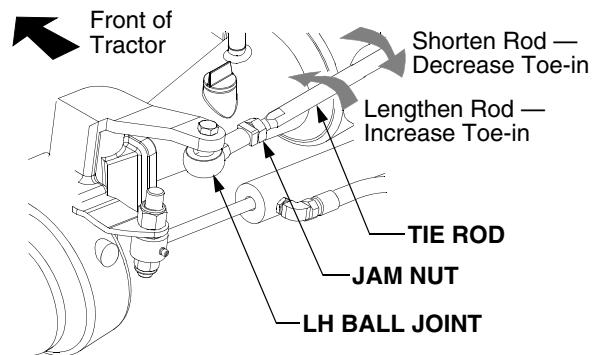

**Figure 30**
- Measure and record the distance 'A' between the two marks. See Figure 30.
- Roll the tractor forward or rearward until the marks are at the horizontal center line at the rear of the wheels. Measure and record the distance 'B' between the marks. See Figure 30.